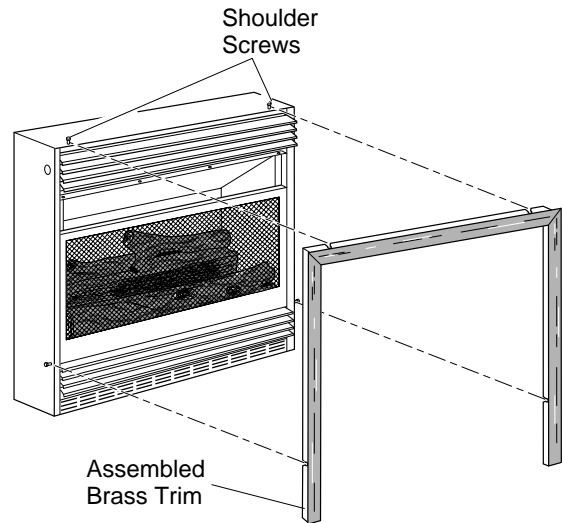

Figure 2 - Attaching Brass Trim to Fireplace
2. Firmly snap brass trim assembly on shoulder screws. Shoulder screws are located on fireplace cabinet (see Figure 2).